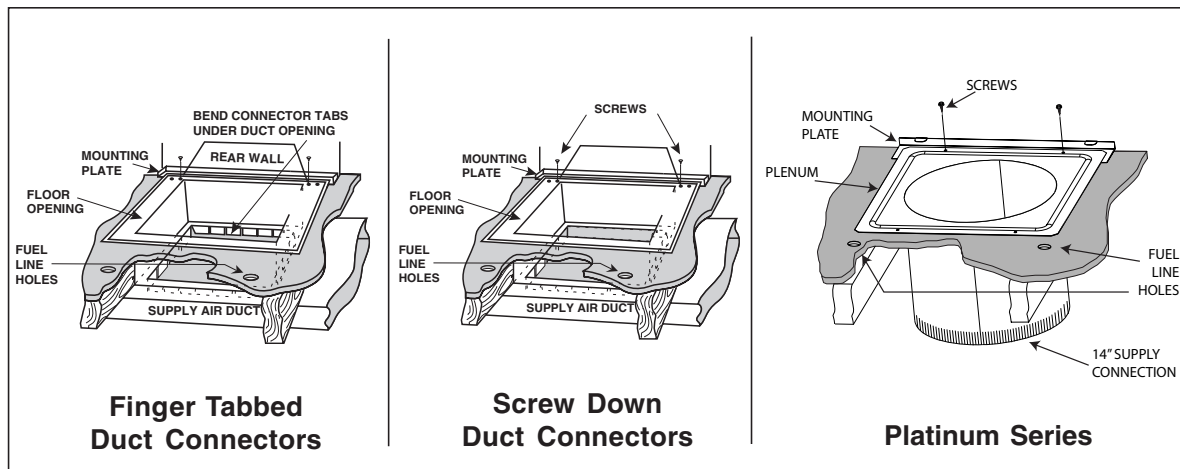

Figure 9. Duct Connector
- Place mounting plate (supplied within duct connector) at rear of the floor opening (See Figure 9).
- Place duct connector through the floor opening. (See Figure 9).
- Place duct connector through the floor opening with bottom tabs extending through the duct opening. (See Figure 9)